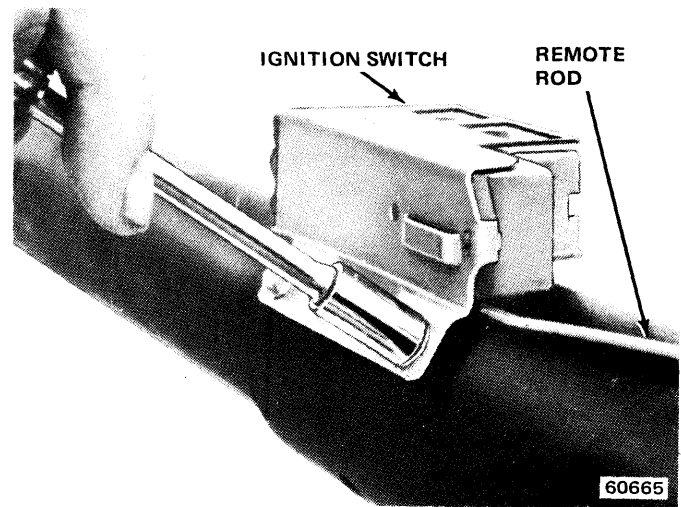

Fig. 11-8 Removing—Installing Ignition Switch
(19) Remove ignition switch from lower end of column (fig. 11-8).